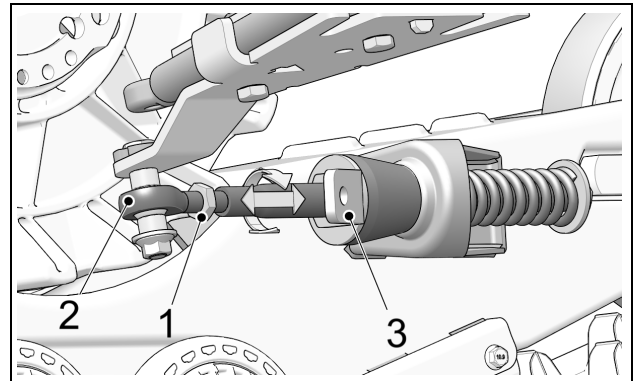

Figure 5
- Loosen jam nut (1). Adjust length of rod end (2) by rotating the steering limiter support plate on (3) the stabilizing arm. Use a 30 mm wrench to rotate support plate to obtain a perfectly centered bubble in the level. Refer to Figure 5.
**NOTE:** Stabilizing arms on front Track Systems incorporate a steering limiter support plate (3) that is bent. This plate should be positioned inwards, towards the vehicle.